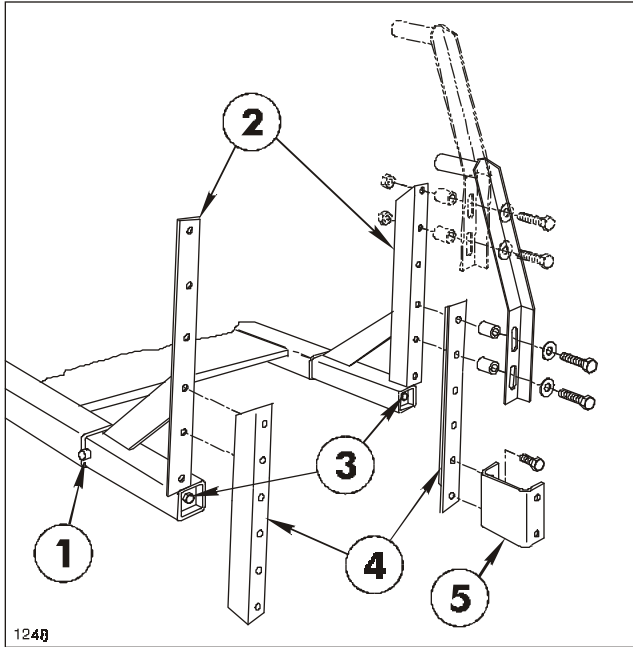

FIG. 10
1. Apply a heavy coating of grease to the tubes of the two Boom Mount Assemblies and insert them into the Vehicle Frame until Stop Pin bottoms out against Vehicle Frame. (See FIG. 10.)
5. Attach the (2) "U"-shaped Boom Mounting Brackets to the proper holes in the Boom Mount uprights or Boom Angles with (4) 1/2" x 1-1/4" cap screws, and lock nuts. (See FIG. 10 & 11.)
4. Install the (2) Boom Hold-In Assemblies to the top of the Boom Mount uprights or Boom Angles using (4) 1/2" x 1-1/4" cap screws, flat washers, spacer tubes and lock nuts. See FIG. 10 & 11.